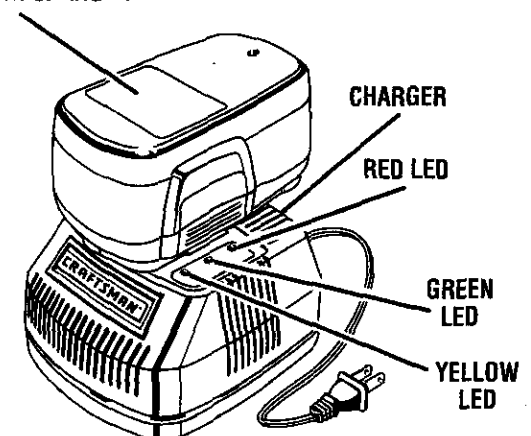

Fig. 2
■ Place the battery pack in the charger aligning raised rib on the battery pack with the groove in the charger. See *Figure 2*.